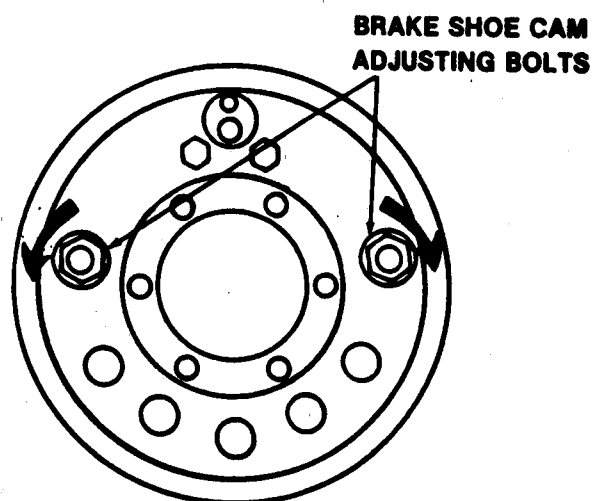

Figure 5. Brake Shoe Adjustment - Drum Brakes
A minor adjustment as compensation for the wear in the brakes can be made on the adjusting bolts shown in Figure 5. This adjustment is for the drum brakes only. The disc brakes have no adjustment.
3. Turn the adjusting bolts in the direction shown in Figure 5. Move each brake shoe into contact with the brake drum until the wheel can no longer be turned by hand. Now turn the adjusting bolt in the opposite direction until the wheel can be turned freely.